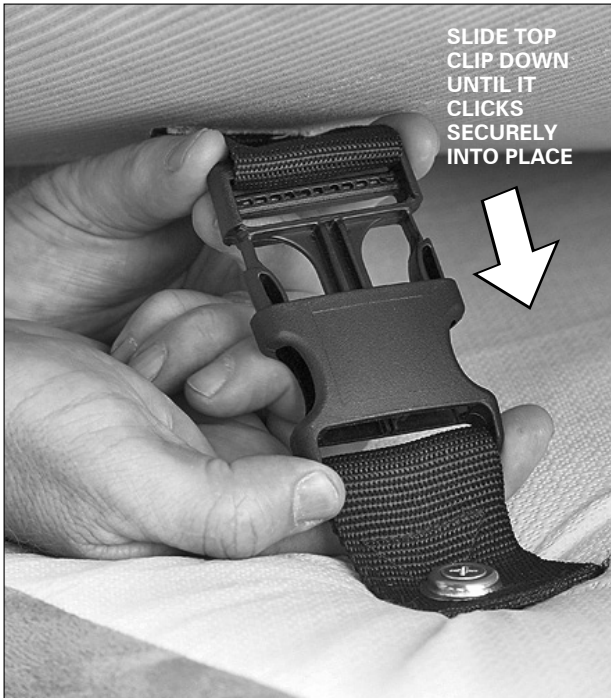

FIGURE 6: Clip Lock™ Lifestyle™ mattress installation.
- c. On one side of the bed, lift the mattress slightly to gain access to the Clip Lock™ components. Grasp and hold each section of the clip in separate hands (FIGURE 6).
- d. Insert top clip into bottom clip. Slide top clip down until it clicks securely into place (FIGURE 6).